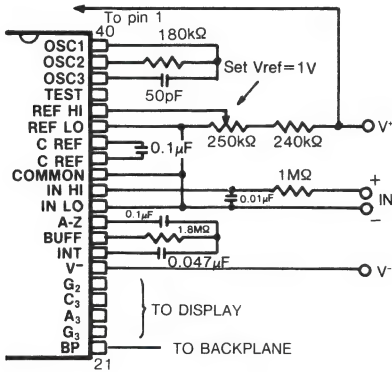

Fig. 5.
3. **Recommended Component Values for 2.000V Full-Scale, 3, Readings/Sec.** For 1 reading/sec, change C_{INT} , R_{OSC} to values of Fig. 5.